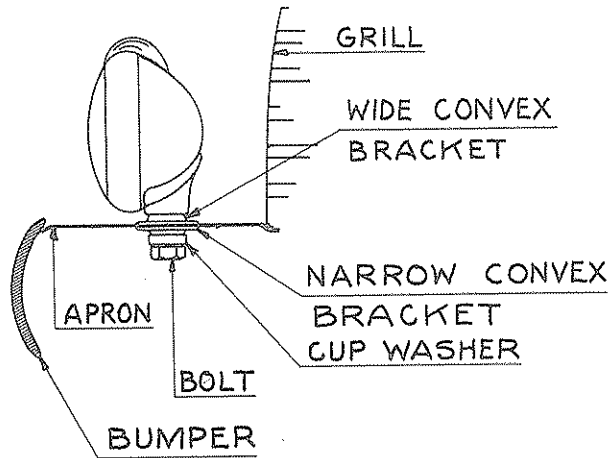

FIG. 1
1. Center punch apron at same spot on right and left side and drill $\frac{1}{2}$ " holes, being sure to set hole position far enough forward for lamp shell to clear grill. (Fig. 1).
2. Place wide convex bracket on top of apron over $\frac{1}{2}$ " hole; place narrow convex bracket under apron; place cup washer below narrow convex bracket; place lock washer over bolt; insert bolt through the above parts and screw into the lamp shell bracket. (Fig. 1).